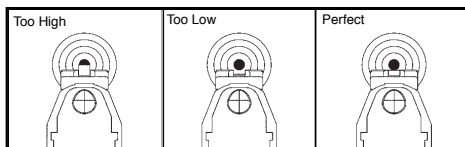

Fig. 6
- The air pistol is correctly aimed when the front sight blade is positioned exactly in the notch of the rear sight. The top of the front sight blade should be even with the top of the notch in the rear sight. The bullseye should appear to rest on the top of the front sight (See **Fig. 6**).